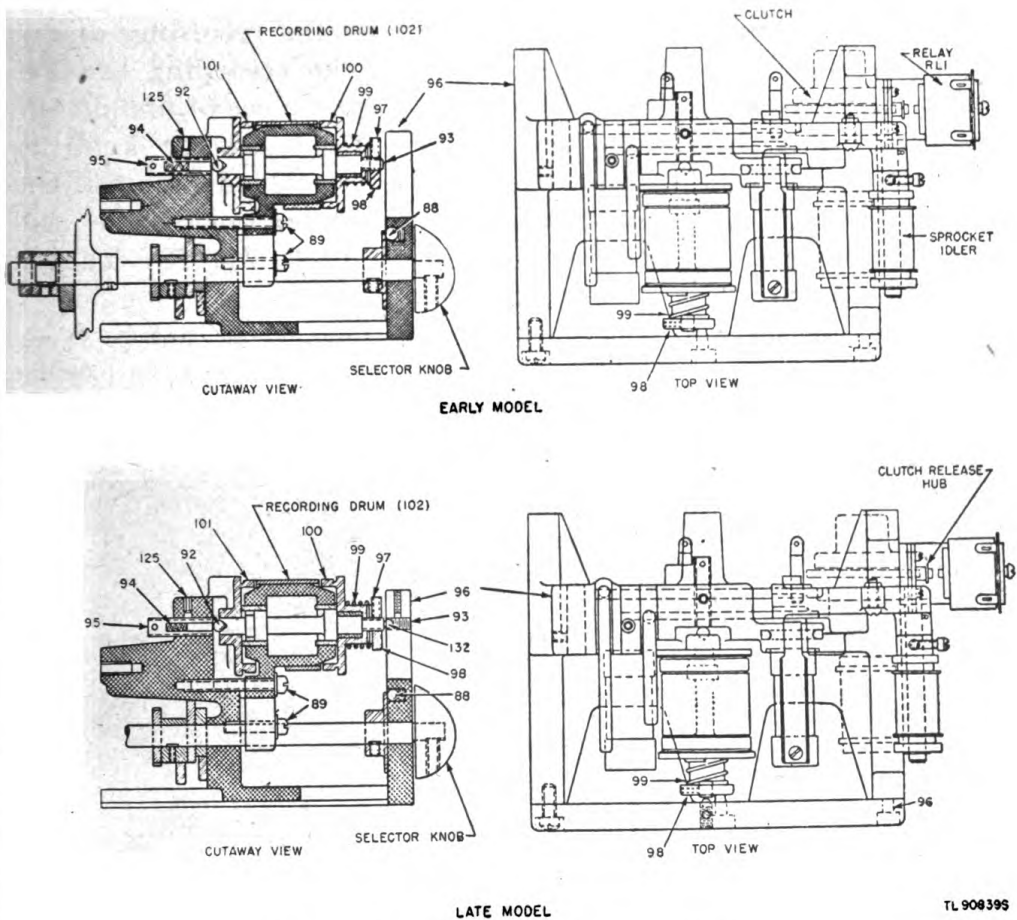

Figure 39. Recording-drum assembly.
*a.* DISASSEMBLY OF RECORDING DRUM (fig. 39). (1) Remove the selector and MONITOR knobs. Remove the two screws at the ends of the recording bracket cover. Pull cover off the bracket.
(2) Remove the front casting plate (96) from the recording bracket.
(3) In removing the plate, be careful not to lose the seated ball (88) which is sided in a drilled hole in the casting plate.
(4) The recording drum is held in place by two No. 10-32 fillister head screws (89) and two dowel pins. A ball (92)
*Note.* On Sound Recording Set AN/UNQ-1A, another ball will be found pressing against the front of the shaft (132, fig. 39). Remove this ball during the disassembly procedure.
(5) Disassemble the film-flange shaft (93) from the drum by loosening the setscrew (97) in the film-flange adjusting nut (98) and back this nut off the shaft (93).
(6) Remove the spring (99) and the spring flange (100). The inner flange (101) is pinned to the shaft. The shaft may be removed from the back of the drum.
*b. ASSEMBLY.* (1) Reassemble the recording-drum assembly by following the above procedure in reverse order. Then place the drum back into place in the recording-drum-bracket assembly. A bit of refined grease (or vaseline) may be used to hold the ball (92) in place during this reassembly.
a. DISASSEMBLY. (1) Remove the selector and MONITOR knobs.
(2) Remove the recording-bracket front cover. The cover is held by two screws, one at each end.
(3) Remove the front casting plate of the recording bracket. Be careful not to lose the small ball (88, fig. 39) which lies between the locating disk on the camshaft and the pocket in the front plate.
(4) The switch assembly may be removed by loosening and removing the two screws holding it to the recording bracket.
(5) Long wires attached to the switch mechanism permit switch inspection without its complete detachment from the recording bracket. To remove completely, disconnect the two wires connected to the switch lugs.
b. ASSEMBLY. (1) Reverse above procedure.